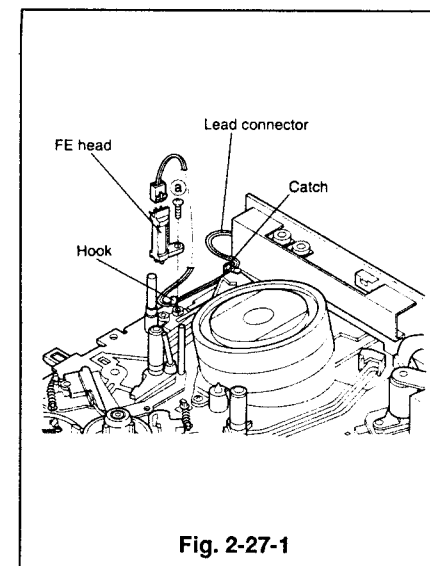

Fig. 2-27-1
2-27 FE Head (Refer to Fig. 2-27-1.)
- 1 Secure the FE head with the screw(Ⓐ) and connect the lead connector to the FE head. (Route the lead connector, which is fastened with the catch as shown in Fig. 2-27-1, through the hook of the main plate.)